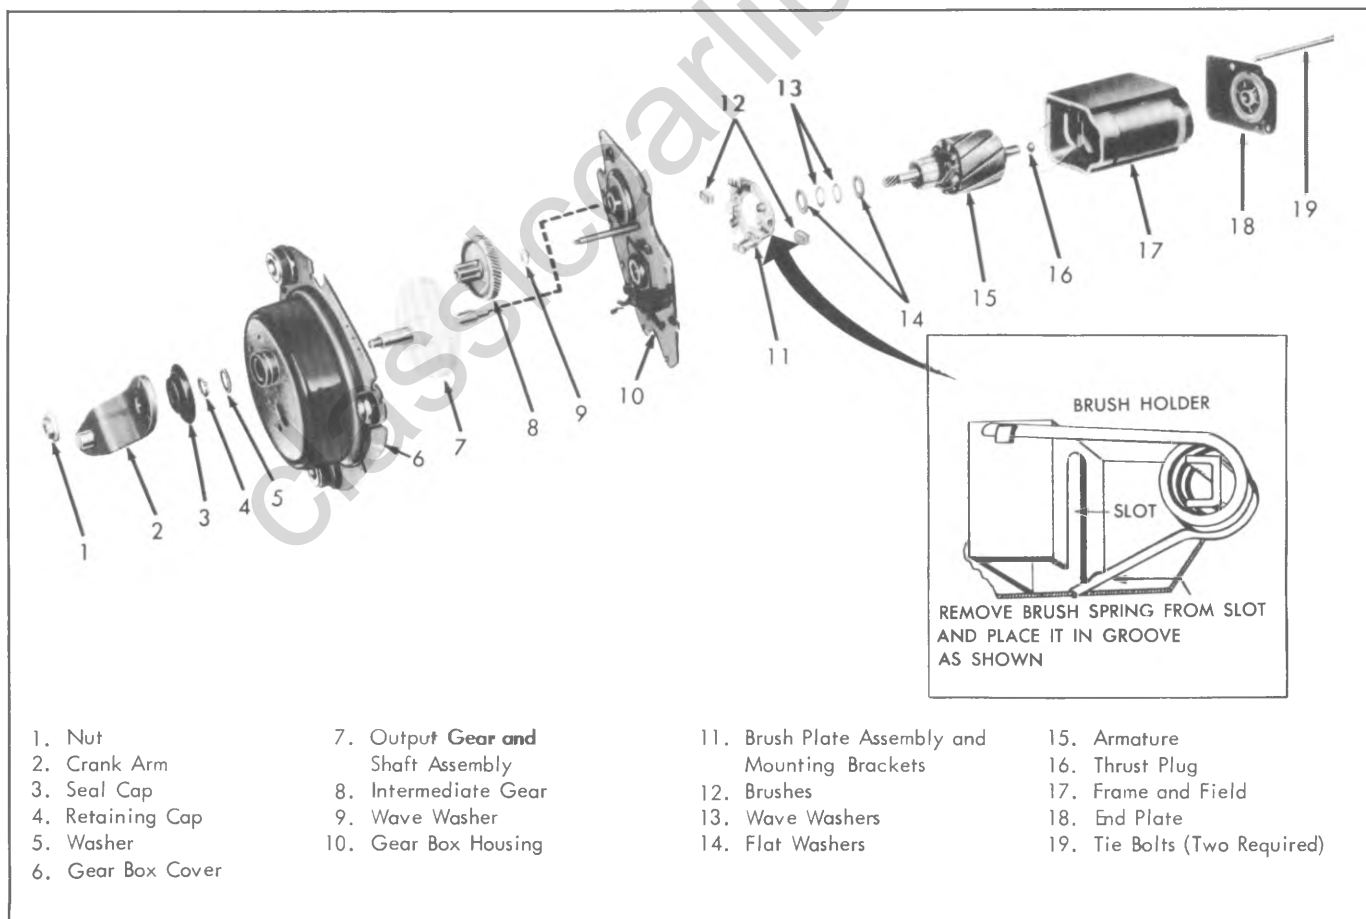

Fig. 8-26--Wiper Motor and Gear Box Assembly
Disassembly (Fig. 8-26)
3. Remove brush spring tension (fig. 8-26), slide armature and end plate from motor frame. Pull end plate from armature.
Refer to Figure 8-26 for exploded view of motor and gear train.